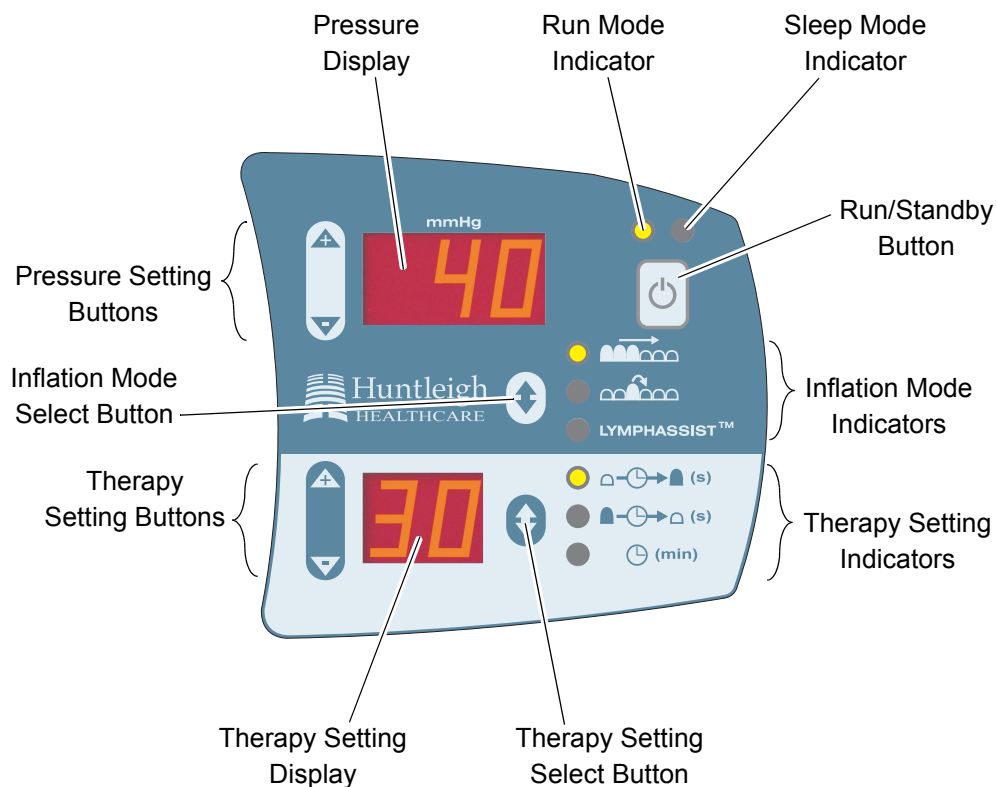

Figure 8 - Typical Control Panel Display in Run Mode
- 1.1 The controls and indicators are located on the control panel (refer to Figure 8), and a sophisticated alarm system differentiates between normal operation and genuine system faults.